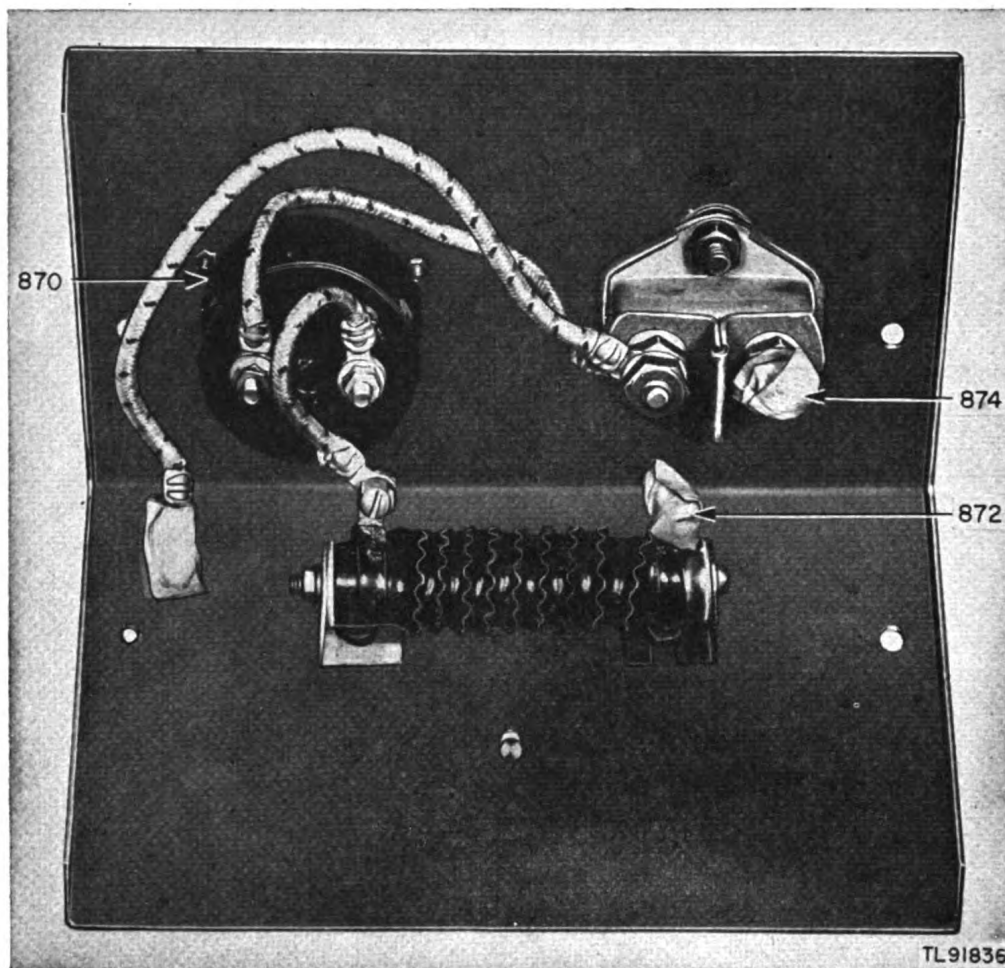

Figure 51. Control box for Power Units PE-49-F and PE-49-G, interior of top cover—showing parts masked.
(7) Tape connecting lugs on the disconnected lead in top cover of control box, the exposed contact on the battery charging dropping resistor (fig. 51 (872)), and the exposed contact on the starter-switch terminal. (See fig. 51 (874).)
- (2) Spray inside of top cover of control box and all attached components. (See fig. 51.)
- (3) Spray inside of control box cover.
- (4) Hand brush the joint in ammeter where the back plate and ammeter case join. (See fig. 51 (870).)